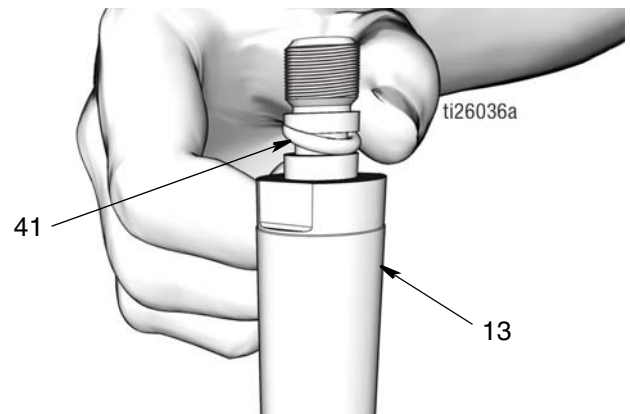

FIG. 49
- Use a clean cloth to wipe down the piston rod (13) and piston (6) and remove any dirt or contaminants. Inspect surfaces for any scratches or damage. Replace damaged parts.
- Apply a thin layer of grease to o-ring (41). Install o-ring over the grooves of the piston rod (13) (FIG. 49).